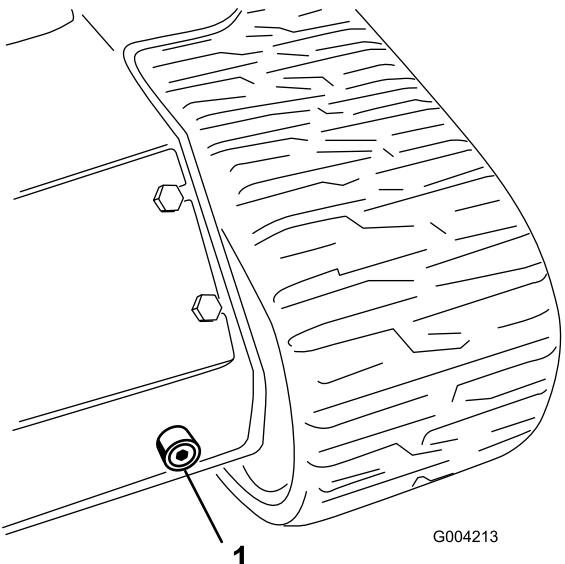

Figure 64
- Place a large drain pan capable of holding 57 L (15 US gallons) under the drain plug on the front of the machine (Figure 64).
- Remove the drain plug and allow the oil to drain into the pan (Figure 64).